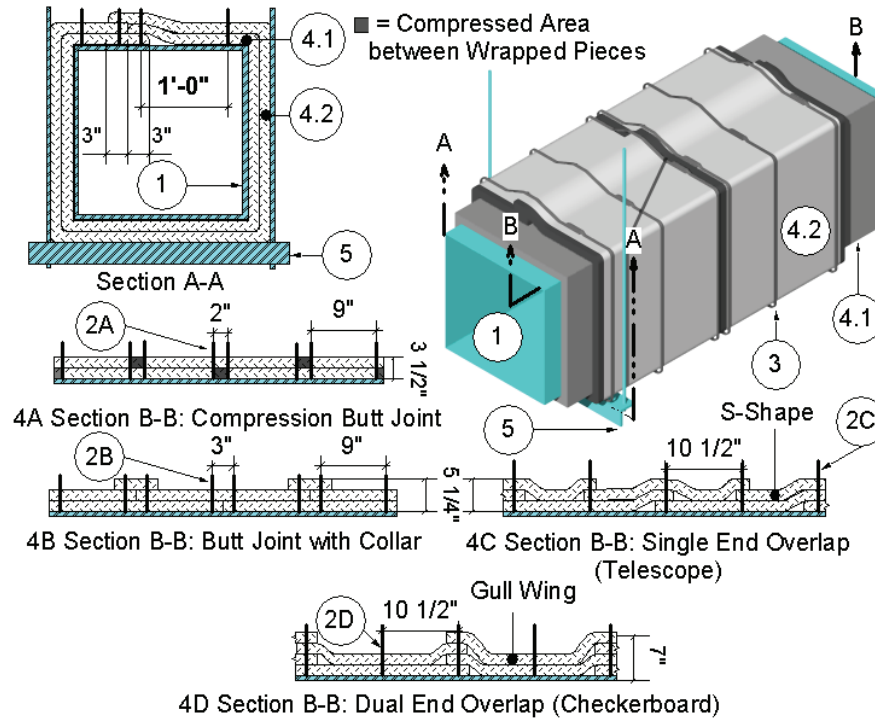

Figure 1
- 2. FASTENERS:** Refer to Figure 1. Weld minimum 12 GA, 6-1/2 in. long, copper- coated, steel insulation pins or 12 GA, insulated cup head steel pins to the grease duct (Item 1). Match the following fastener method with corresponding insulation (Item 4) method.
INSULATION: Apply the non-combustible (ASTM E136) and durable (ASTM C518) insulation in two layers of nominal 1-1/2 in. thick, 6 pcf density blanket, made of calcium-, silica-, and magnesium-oxide (CSM) fibers, encapsulated with polypropylene-foil or aluminized polyester-foil scrim over the entire surface of the grease duct (Item 1). Apply the inner first layer (Figure 1, 4.1) in accord with one of the four methods (A, B, C, or D) that follow. Offset the second outer layer (Figure 1, 4.2) one half the width of the inner first layer (Figure 1, 4.1) so that the joints of the inner first layer (Figure 1, 4.1) are covered by and approximately in the center of the second outer layer (Figure 1, 4.2). Apply the second outer layer (Figure 1, 4.2) in accord with the same method selected for the first inner layer (Figure 1, 4.1). Use blanket, available in various widths, that is fully encapsulated or single faced with a polypropylene-foil or polyester-foil scrim. Expose a foil-faced side of insulation to view. Wrap one layer of insulation around the grease duct (Item 1) perimeter so that each terminating end of insulation overlaps onto the starting end of insulation a minimum of 3 in. at all transverse joints. Stagger the transverse overlap location so that no two consecutive adjacent overlaps align. Refer to section view A-A for transverse overlap section view. Cover all visually-exposed ends and edges of insulation with nominal 4-inch wide, pressure-sensitive, aluminum foil tape.